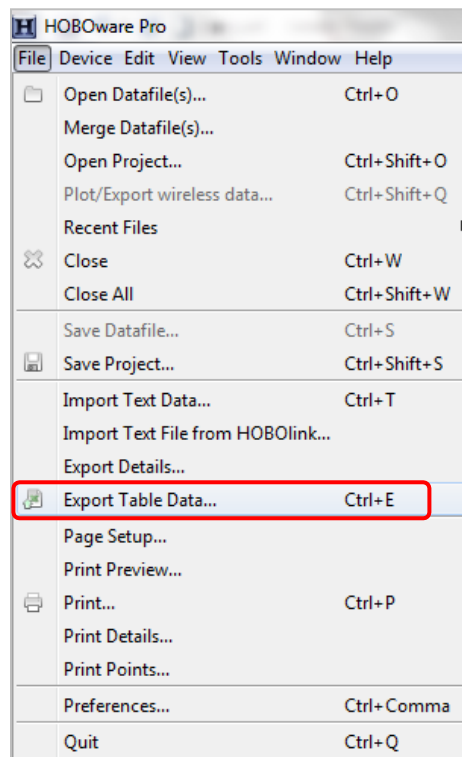

Figure A.5.16: File menu options.
3. Click “File” > “Export Table Data” (Figure A.5.16).